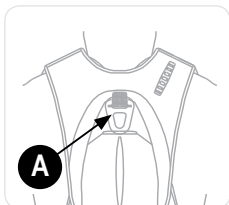

Figure 17
- Connect the karabiner of the energy absorbing lanyard to the fall arrest attachment point marked **A** (Figure 17). **A** is the only attachment point that will operate the Latchways PRD rescue function.